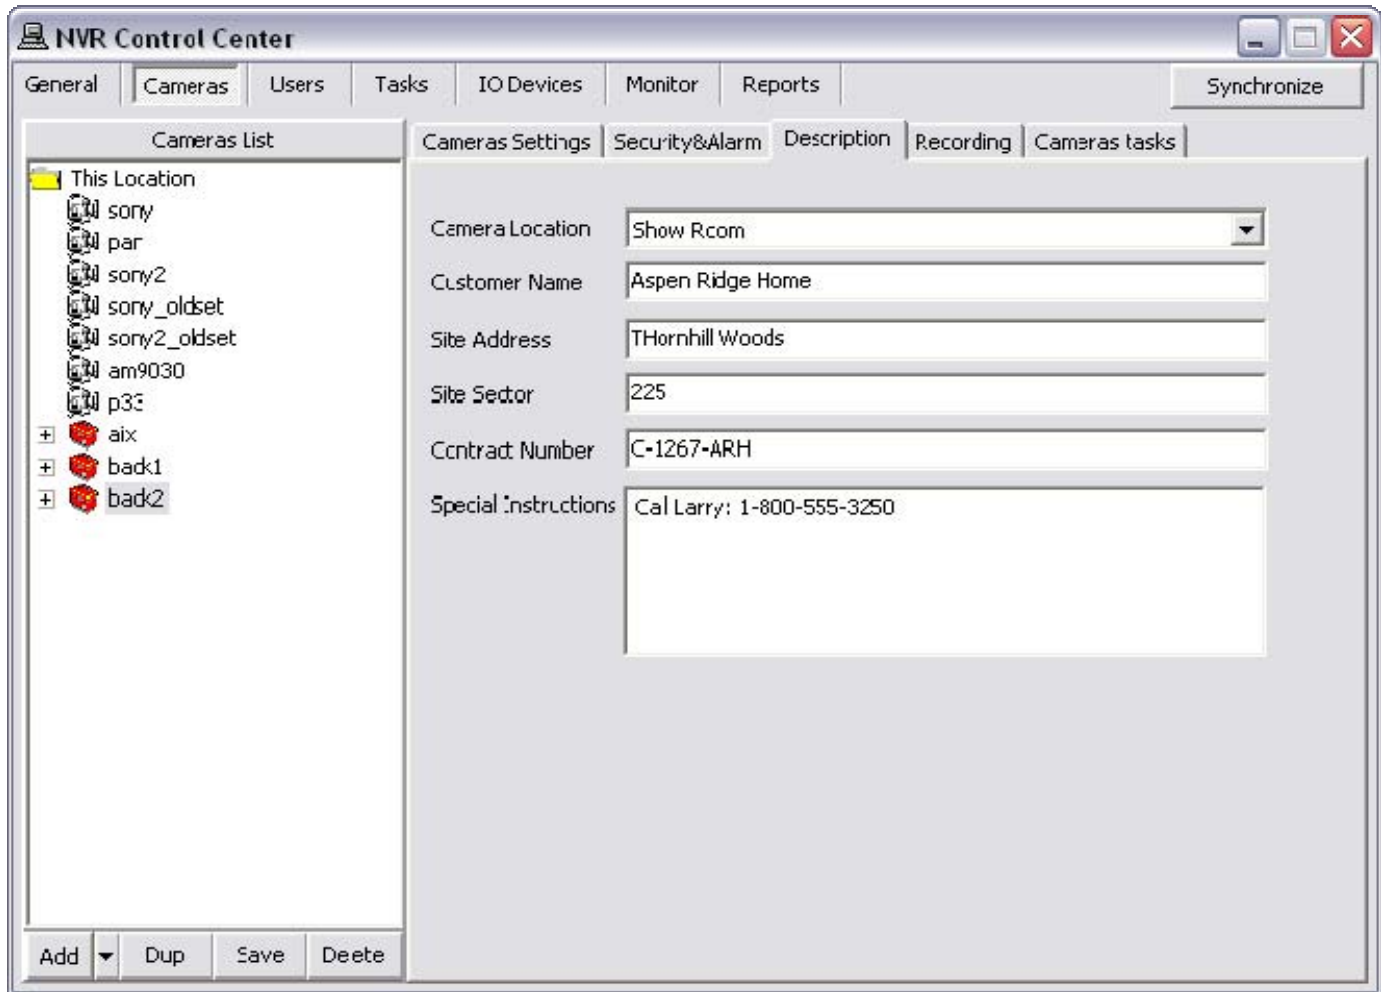

Fig 29. NVR Control Center — Cameras — Security & Alarm
2. Enter the required information (Fig 29).